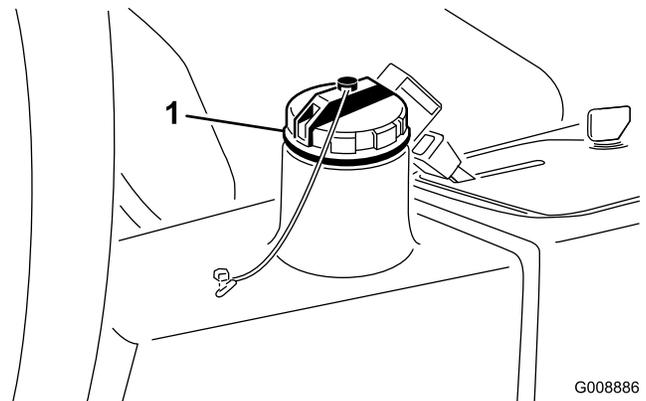

Figure 58
3. Fill the reservoir (Figure 58) with approximately 3.5 U.S. gallons (13.2 l) of hydraulic fluid; refer to Checking the Hydraulic System.